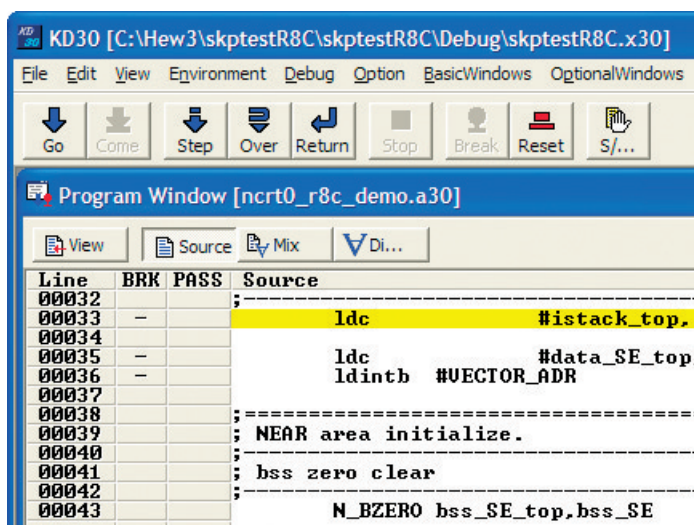

Figure 5. KD30 Program Window after download of skptestR8C
- h) Select the file "skptestR8C.X30" and click <Open>. After the module is downloaded, the Program Window should look like Figure 5.